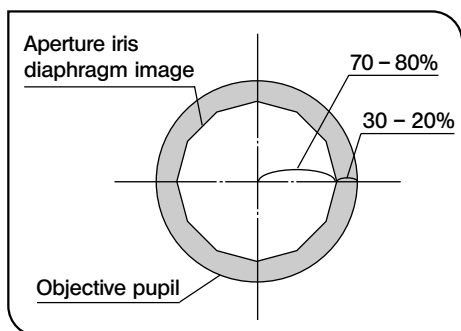

Fig. 30
(Fig. 30)
- To confirm the aperture iris diaphragm, remove the eyepiece when necessary (and insert the CT-5 if you have one). Then look into the eyepiece sleeve; you will see the field of view as shown in Fig. 30. Now adjust the aperture iris diaphragm lever as required.